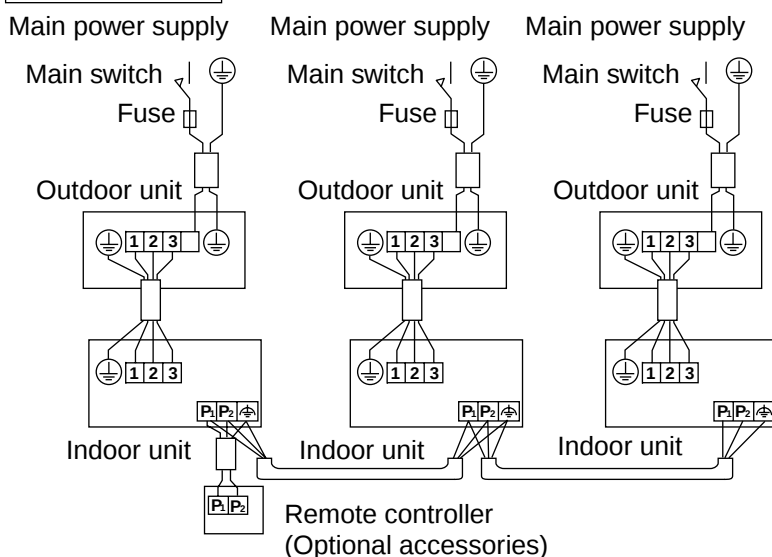

Fig. 27
- **Group control** : 1 remote controller controls up to 16 indoor units. (All indoor units operate according to the remote controller) **(Refer to Fig. 27)**